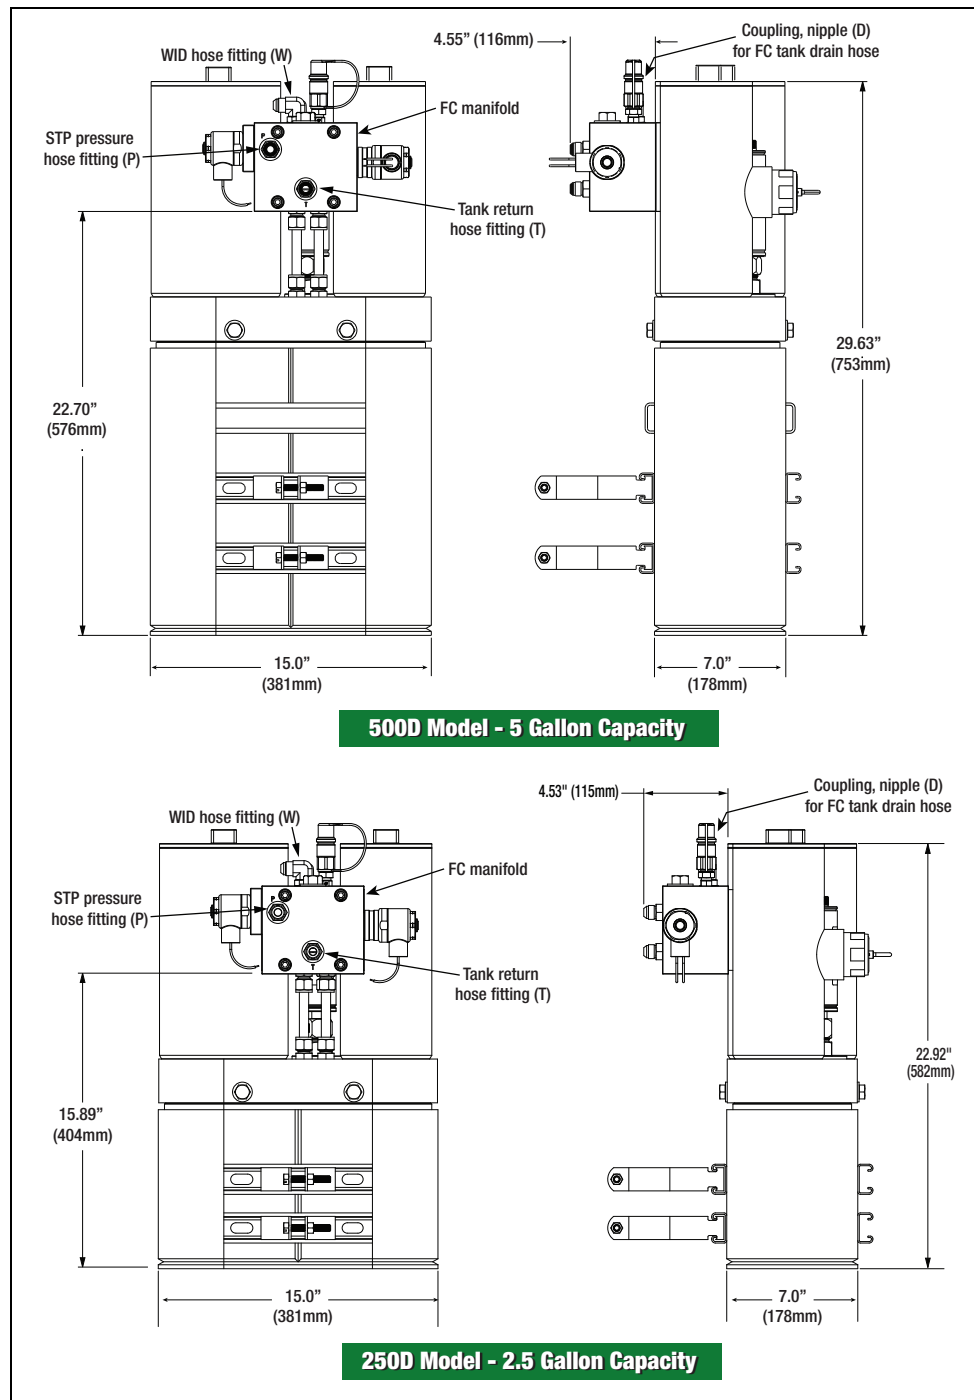

Figure 13. FC Dimensions
1. The dimensions of the two HydrX models are shown in Figure 13. 10 inches of clearance must be available between the top of the filter caps and the sump to allow for easy replacement of filter elements.